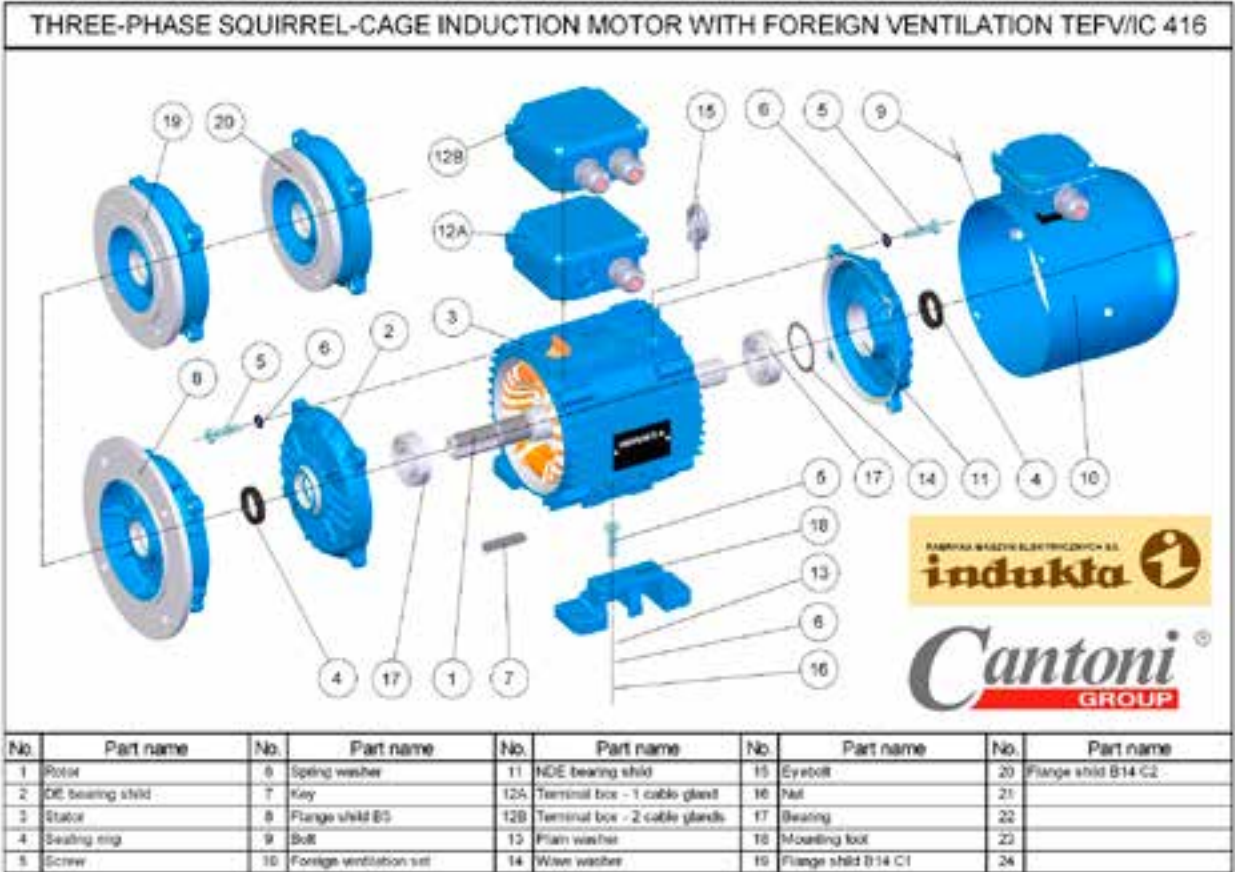

Fig. 12
In case of motors with an external ventilation system (fig. 12), external ventilation (10) is disassembled along with the cover.